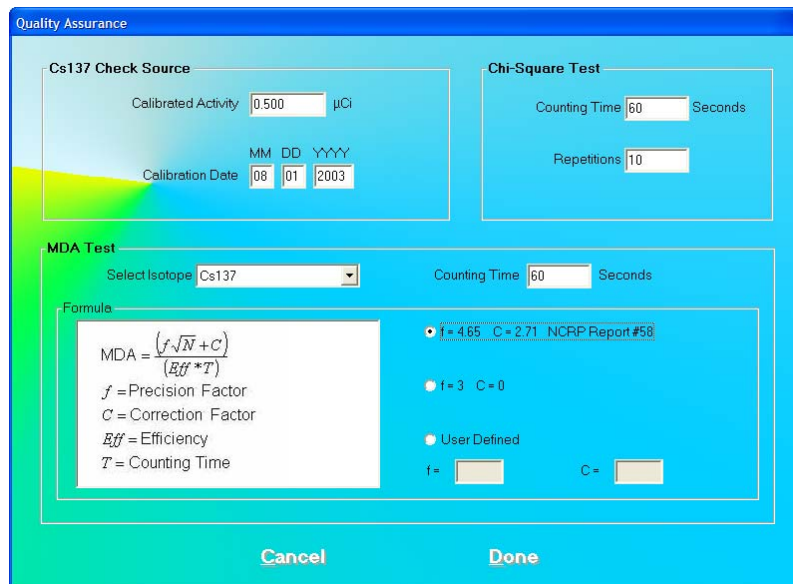

Figure 5-22 Quality Setup Screen
2. Click the **Setup** button or press *Alt+T*. Figure 5-22 Quality Setup Screen will appear. Only the **MDA Test** frame values are used in this test.